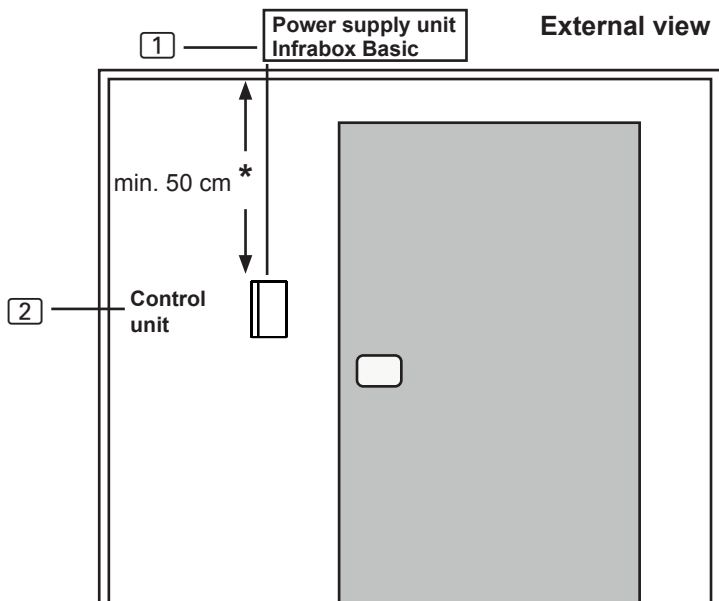

Fig. 2 Control unit position
The control unit [2] of the infrared controller is installed on the outside wall of the cabin with a maximum clearance of 10 metres from the power supply unit [1] (see Fig. 2). For the installation, a standard jigsaw is required to cut out the recess for the control unit. The control unit can be installed both inside and outside the cabin.
* For installing inside a sauna cabin, a minimum clearance of 50 cm must be maintained (see Fig. 2 Control unit position on page 11).